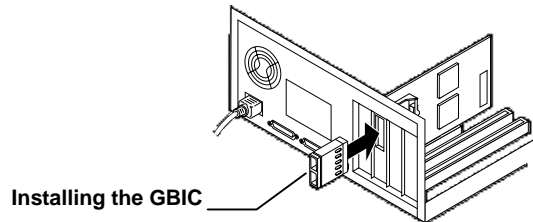

Figure 2. GBIC Module
- b. Install the GBIC into the receptacle on the FC I/O adapter (see figure 2).